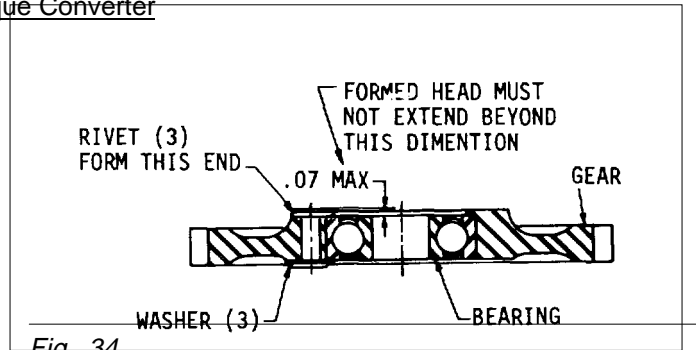

Fig. 34
- (a) To remove ball bearing (20) from hub of idler gear (21), grind the head from three rivets (22). (The head end of the rivets rests against washers (25).) Drive the rivets from the gear and remove the washers and bearing.
- (2) Cleaning, Inspection. Refer to paragraph 74.4 for cleaning and inspection procedures.
- (3) Assembly (Fig. 34)
the rivet, and install them into the flat side of the gear hub. Support the rivet head (washer side) on a suitable hard surface, and peen the rivet shank against the spotface. Repeat the procedure for the remaining two washers and rivets. Make sure that the formed head does not extend beyond the 0.07 inch (1.778 mm) dimension indicated in Figure 34.